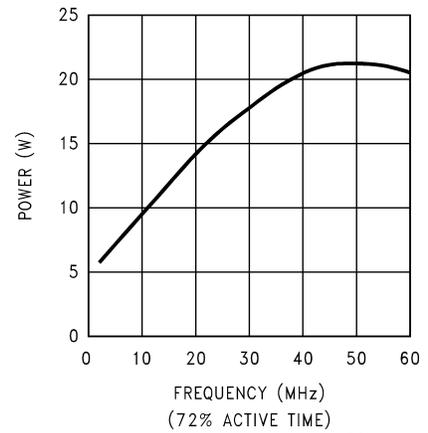

FIGURE 6. Power Dissipation vs Frequency
*Figure 6* shows the maximum power dissipation of the LM2421 vs. Frequency when all three channels of the device are driving an 8pF load with a 100Vp-p alternating one pixel on, one pixel off signal. The graph assumes a 72% active time (device operating at the specified frequency) which is typical in a monitor application. The other 28% of the time the device is assumed to be sitting at the black level (130V in this case). This graph gives the designer the information needed to determine the heat sink requirement for his appli-
Figures 6 and 9 are used to design the heatsink for the LM2421. For example, if the maximum bandwidth needed will be 40MHz (from *Figure 6*, 40MHz or Frequency = 20MHz), the power dissipated will be 14.5W. *Figure 9* shows that the maximum allowed case temperature is 110°C when 14.5W is dissipated. If the maximum expected ambient temperature is 70°C, then a maximum heatsink thermal resistance can be calculated: